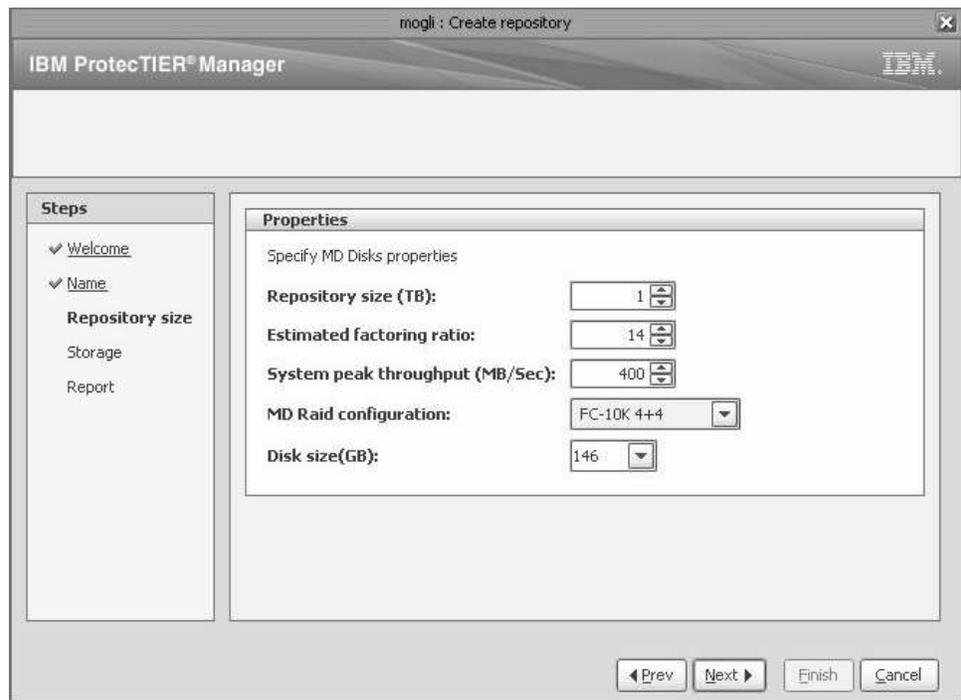

Figure 27. “Repository size” window
6. Click **Next**. The “Repository size” window opens. See Figure 27.